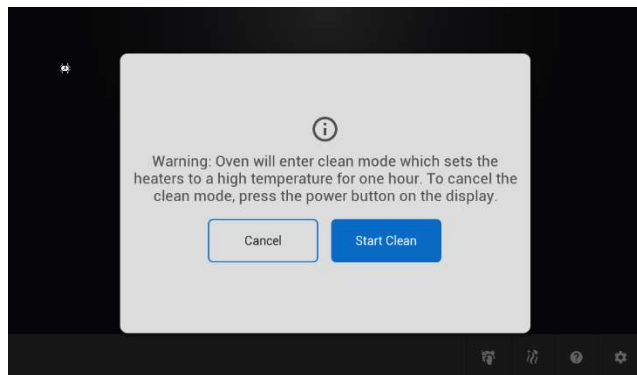

Figure 23.
1. Clean mode can be initiated in two ways: Under the Manager General Settings, or using the Self-Clean button. Upon pressing the clean button, a confirmation dialogue will appear. See Figure 23.